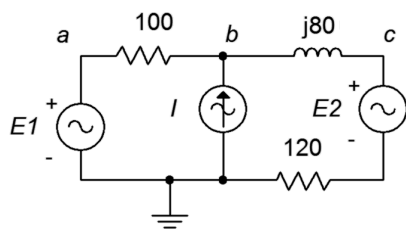

Figure 6.33
68. Given the circuit in Figure 6.33, determine v_{ad} . $E_1 = 15\angle 0^\circ$, $E_2 = 6\angle 0^\circ$, $I = 100E-3\angle 0^\circ$.